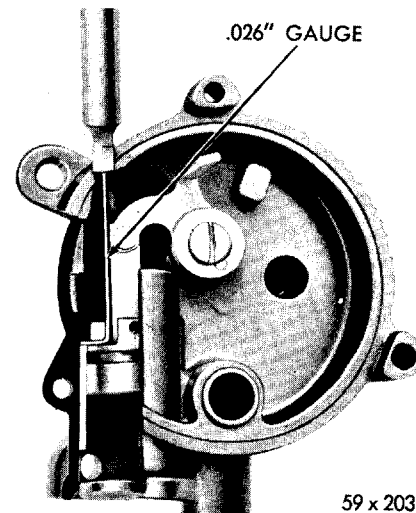

Fig. 20—Indexing the Choke Piston
(2) Remove the throttle return spring, so that the throttle can be set at one quarter open.
(3) Be sure the choke valve is wide open.
(4) Slide a .026 inch wire into the choke piston slot, so that the hook on the end enters the slot in the cylinder, as shown in Figure 20. (This gauge can be made by bending a piece of .025 inch wire from an old BBD carburetor step-up rod or the .026 inch end of wire gauge Tool T109-189 to form the shape shown in Figure 20.)
(5) Push on the choke valve, counter-clockwise, trapping the wire gauge between the piston and the cylinder slot (choke linkage hanging free).
(6) It should now be possible to insert a #32 drill between the choke valve and wall of air horn. If an adjustment is necessary, bend the link that connects the choke shaft to the choke piston lever (at angle) until correct clearance has been obtained.
(7) Place the choke baffle plate in position and install retaining screws. Tighten securely.
(8) Reconnect the throttle return spring.